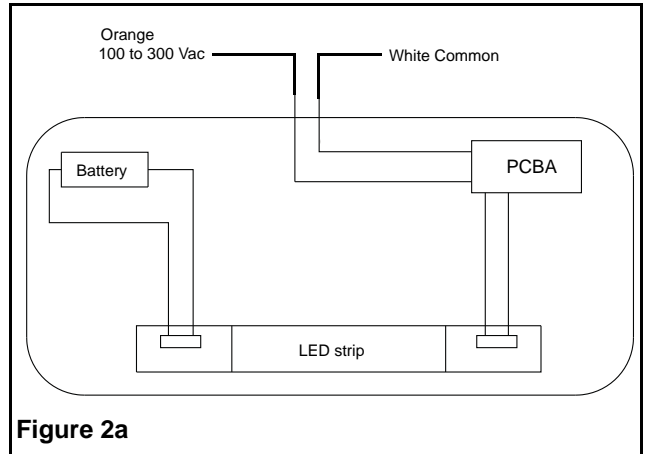

Figure 2a
(common) leads to the building utility. Connect the green ground wire to the service ground (see fig. 2a or 2b).
- f. The system can accept input voltages of 100 VAC to 300 VAC. Therefore, connect the orange wire (line voltage) and the white wire (common) leads to the building utility. Connect the green ground wire to the service ground (see fig. 2a or 2b).